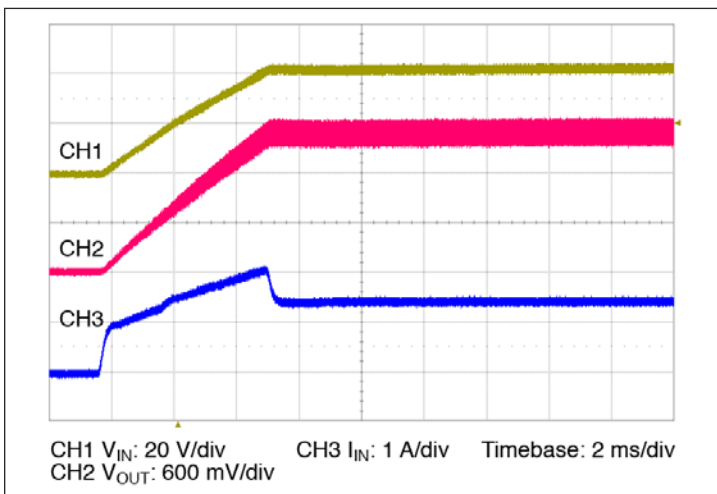

Figure 13 — Start up from application of VIN; VC pre-applied COUT = 0  $\mu$ F
- Normal Operation (VC applied prior to VIN): In this case the controller is active prior to ramping the input. When the input voltage is applied, the VTM module output voltage will track the input (See Figure 13). The inrush current is determined by the input voltage rate of rise and output capacitance. If the VC voltage is removed prior to the input reaching 26 V, the module may shut down.